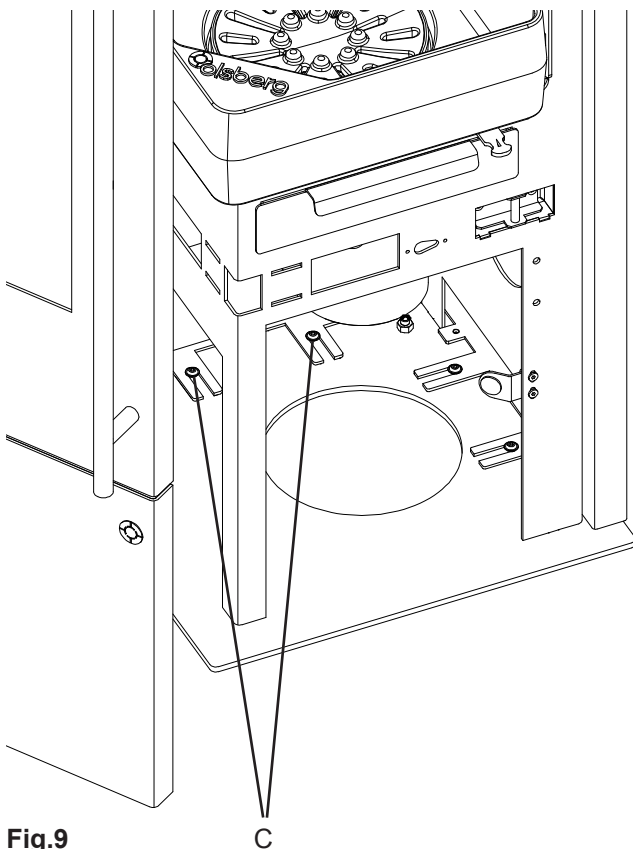

Fig.9
- Loosen the fastening screws (C) at the bottom of the unit (by no more than 2 turns, see Fig.9).